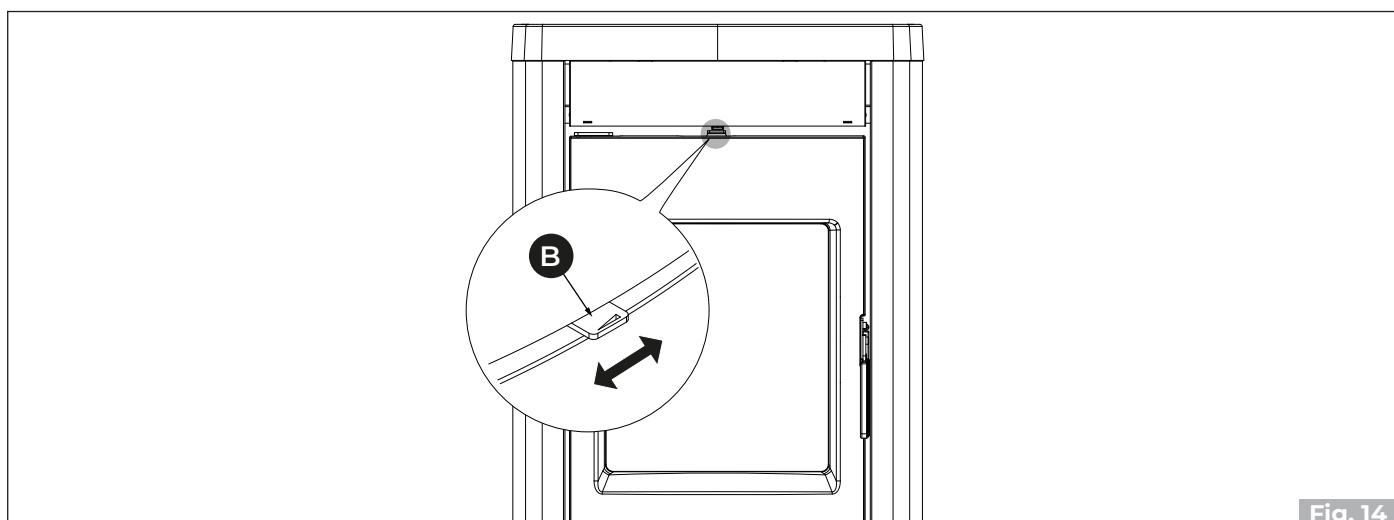

Fig. 14
During operation, it is possible to facilitate the cleaning of the ceramic glass by means of the adjustment lever (B) (Fig. 14) without having to open the door.